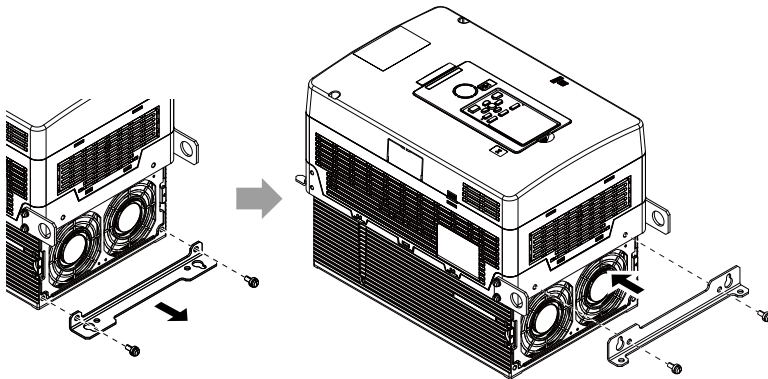

Figure 5.12 Attach the Mounting Bracket
4. Change the position of the mounting bracket and install it in the position shown in Figure 5.12.